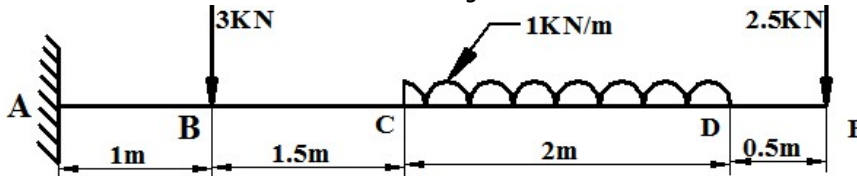

Figure 18
8. Draw the SFD & BMD for the cantilever beam shown in Figure 18